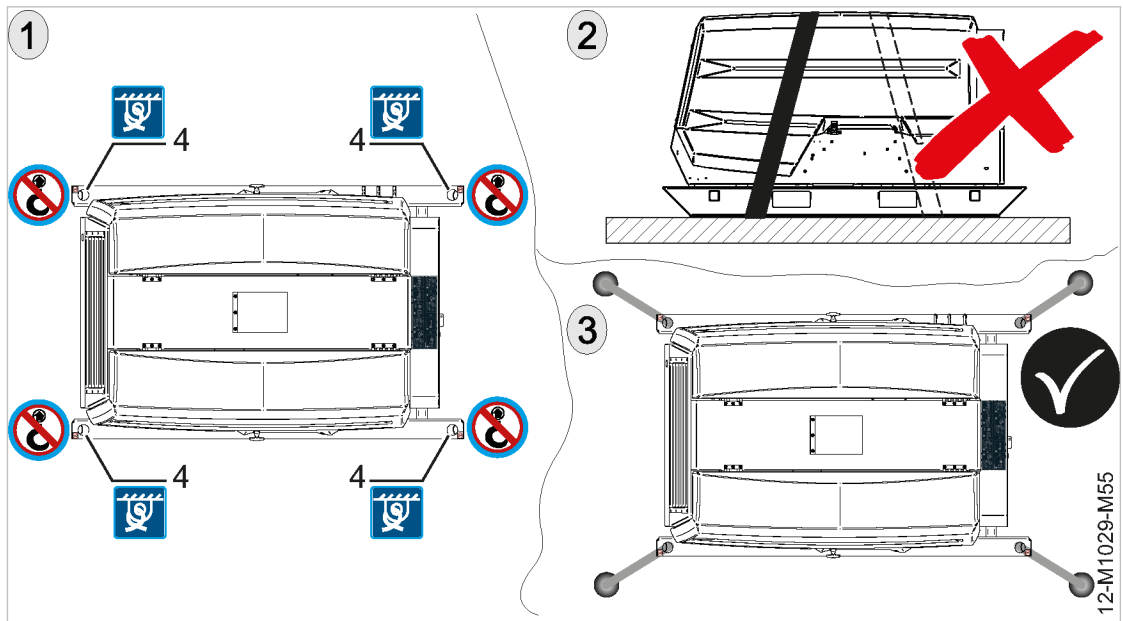

Fig. 77 Bracing as load securing (machine in stationary configuration)
- Secure stationary machines equipped with skids or mounts only via the skids or the lashing points provided, see Fig. 77.